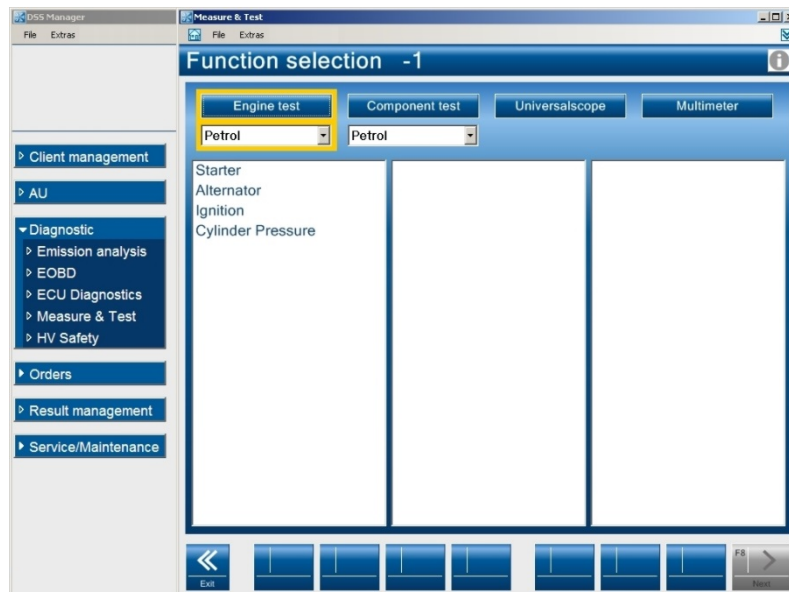

Fig. 3-5
12. Select the mode **Diagnostic | Measure & test | Enginetest | Petrol** (if testing cylinder pressure with the piezo-electric pressure-sensing sparkplug) or **Diesel** (if testing cylinder pressure with the piezo-electric glow plug pressure sensor adaptor), see Fig. 3-5.